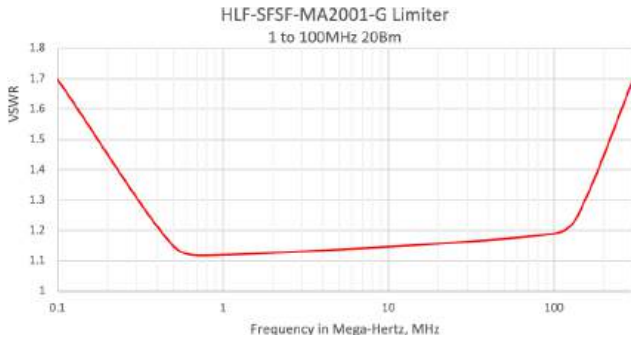
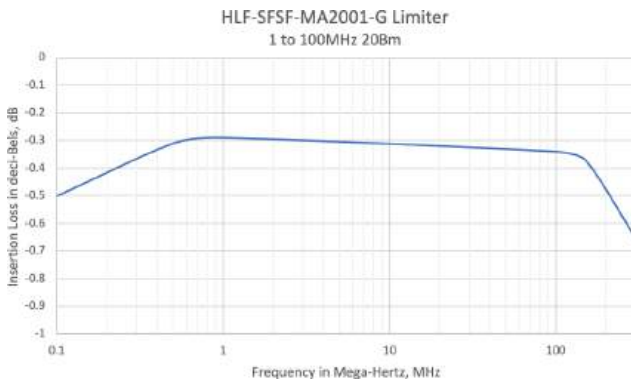

Figure 3: VSWR vs Frequency Plot
Figure 4: Insertion Loss vs Frequency
In normal operation, the limiter should have a good VSWR, low Insertion Loss (IL) and not degrade signals that are under the max operational power rating. However, limiters often have higher insertion loss than typical surge protectors and losses should be included in the systems RF link budget accordingly. **Figure 3** and **Figure 4** show the VSWR and IL for the HF and have similar signatures to that of a band pass filter.